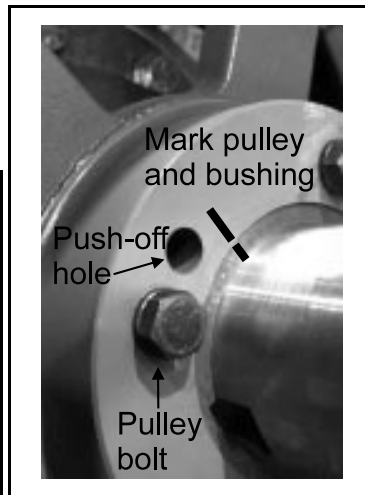
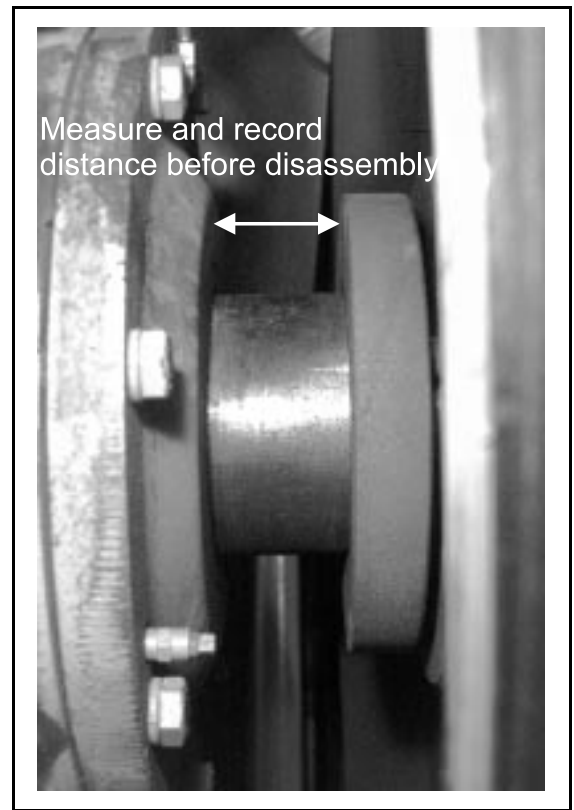

FIGURE 12 (MSSMA430AE)
FIGURE 14 (MSSMA430AE)
3. Measure and record the distance from the back of the pulley bushing to the bearing housing (FIGURE 14), then mark or scribe the pulley and bushing joint before removing (FIGURE 12). After re-assembly, the pulley must line up exactly as removed, or the balancing system will not work.